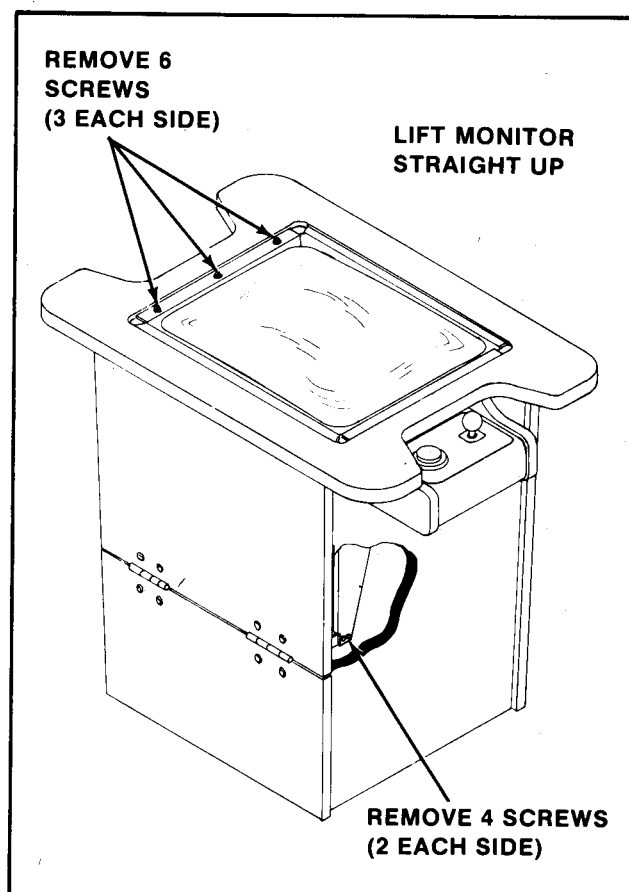

Figure 4-11 Removing Monitor — Cocktail
### 3. COCKTAIL TABLE MODEL: See Figure 4-11.
- Remove the screws holding the T.V. monitor chassis to the "L" by the door hinge(s). See Figure 4-11.
- Remove the screws which secure the T.V. monitor mounting brackets to the edges of the slot cut in the table top. See Figure 4-11.